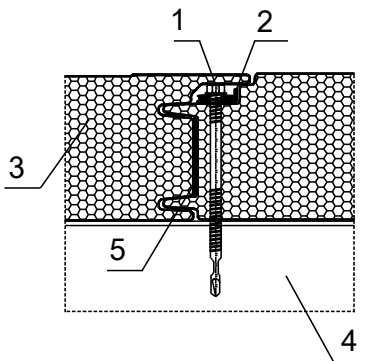

fig. 7
d. Wall panels with a PIR insulation core accommodating the joint with concealed fastener should be fixed to support construction with self-drilling fasteners and fastening element L02 (Fig.7)